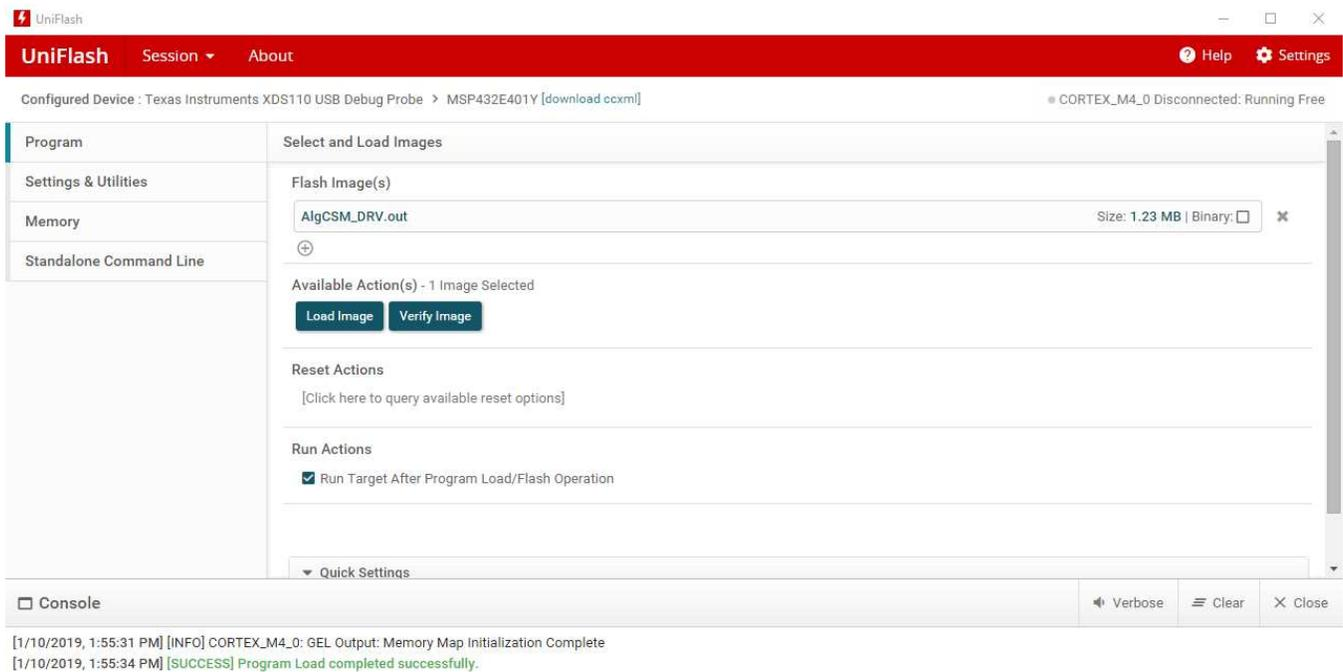

Figure 30. UniFlash Programming, Step 5
13. Click **Load Image** under 'Available Action(s)'. After the program is loaded into the LaunchPad, a message appears in the console that the program load completed successfully, as shown in Figure 30 at the bottom left of the image.